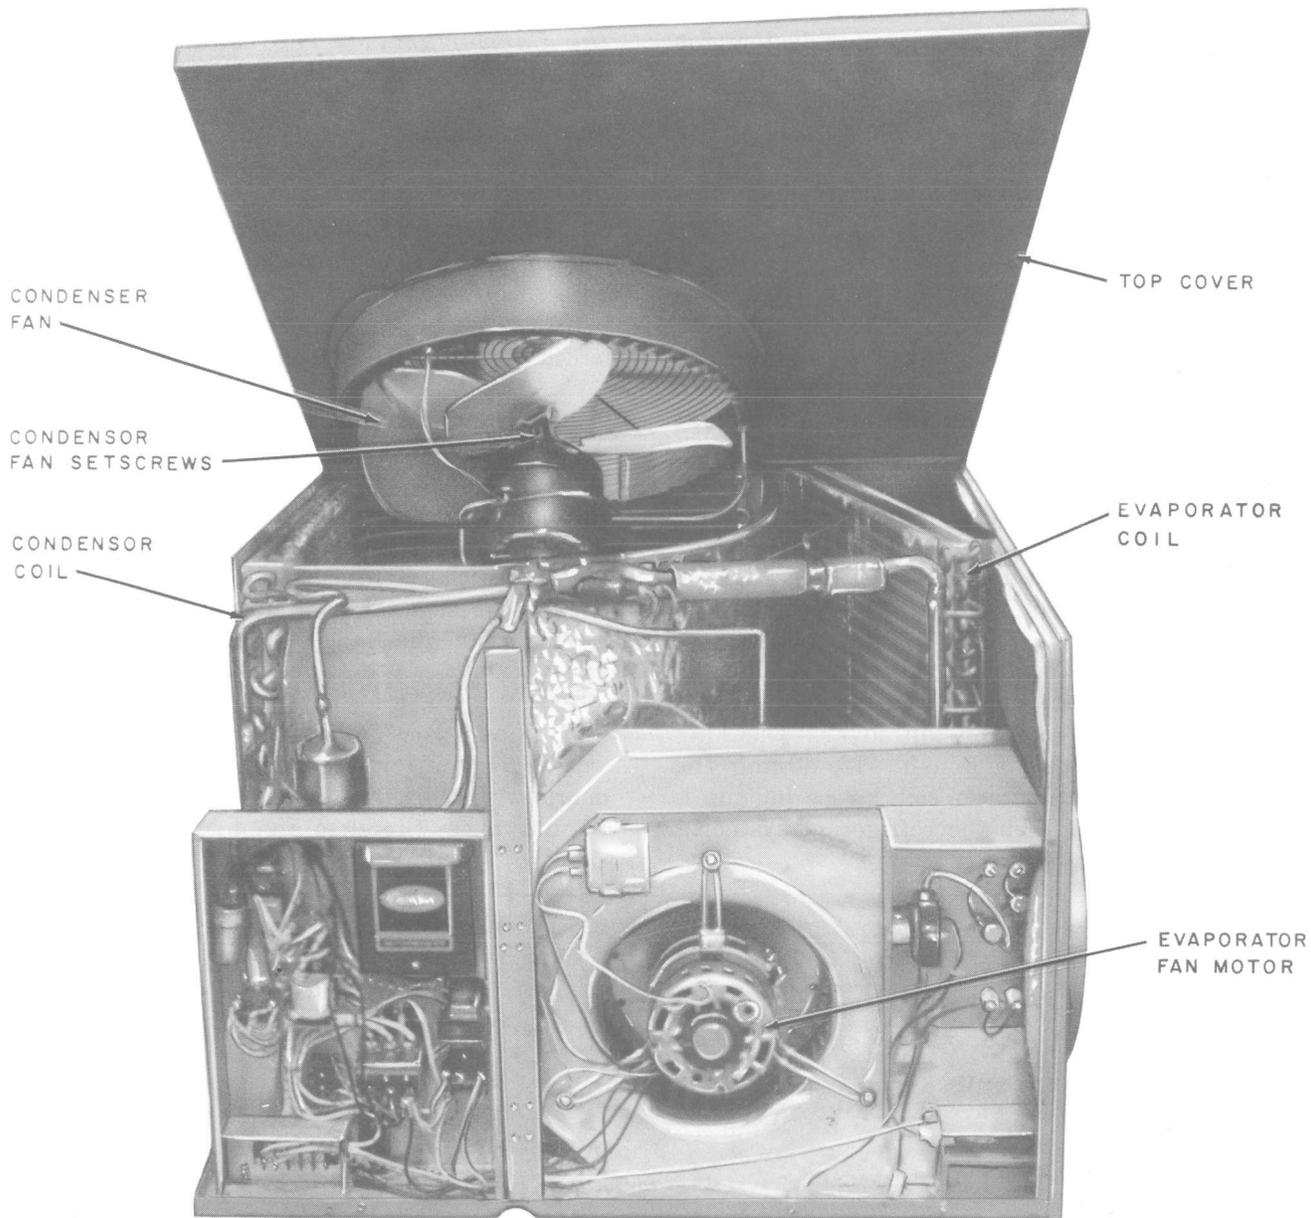

Fig. 4—Carrier Cooling Unit Component Layout (Right Side View)
2.07 Fan Motor Bearings: Both the evaporator fan and condenser (Fig. 4) motor bearings are prelubricated and do not require further attention.
2.08 Evaporator Coil: The evaporator coil (Fig. 4) should be inspected periodically. Access is obtained by removing the top cover. Cleaning should be done with a brush. If, during the inspection of the evaporator coil, an ice buildup is noticed on the coil, then the refrigerant system is
2.10 Evaporator Fan Wheel: The evaporator fan wheel should be centered in the fan housing. If alignment of the fan motor, in relationship to the opening in the sheet metal cover, becomes necessary, loosen the setscrews (Fig. 4) holding the fan to the motor shaft. Adjust the fan, then tighten the setscrews. Remove any caked-on dirt from the fan wheel and fan housing with a brush.
2.11 Condenser Coil: The condenser coil should also be inspected periodically. Remove debris with a brush. To gain access, lift or remove the top cover. (Refer to Fig. 4.)